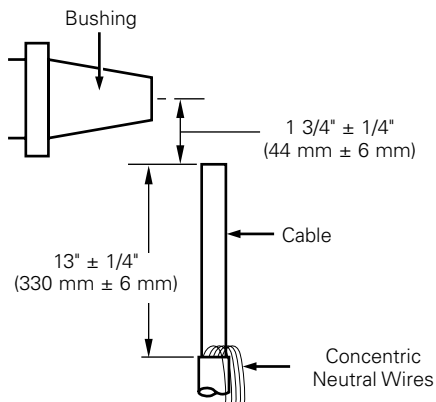

Figure 15. Line illustration of removing concentric neutral wires.
- Measure 13" (330 mm) from end of cable. (Refer to Figure 15.)
- For unjacketed neutral cable, bind neutral wires using three (3) wraps of tape at 13" dimension.